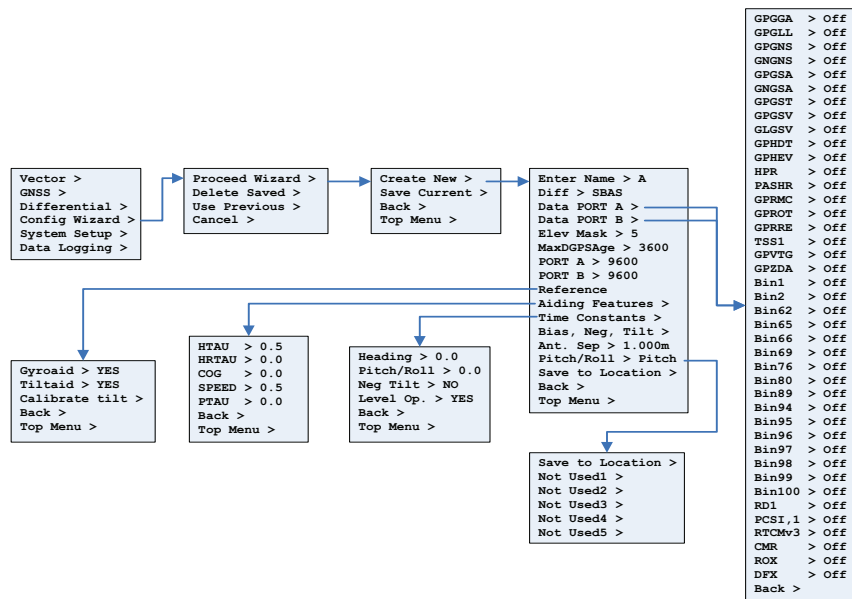

Figure 4-3: Config Wizard menu
This section describes the basic Config Wizard options you need to set to get up and running. Figure 4-3 outlines the menu structure of the Config Wizard menu.
2. Select **Create New** to create a new configuration. You are prompted to enter a name for your configuration. In addition to the Name you can set the options shown at right (also shown in Figure 4-3 on the previous page).